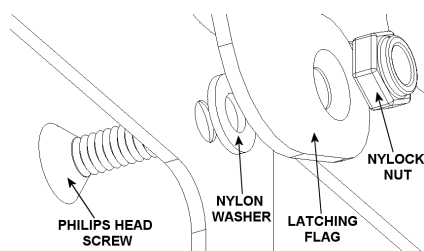
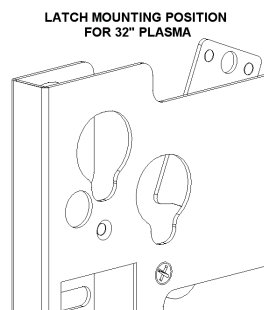
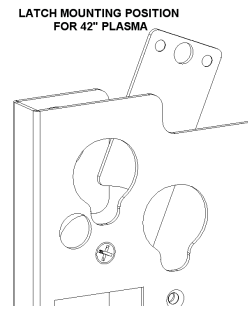
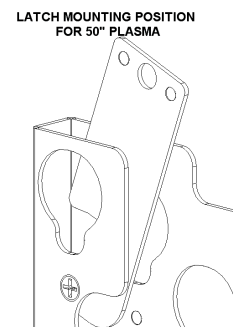

Figure 2
Figure 3
Figure 4
Figure 5
1. Attach latching flag to mount utilizing the proper position on the mount with the latching flag on the inside of the mount. Tighten Nylock nut until friction is sufficient to hold the latch in place (see Figure 2, Figure 3, Figure 4, & Figure 5).